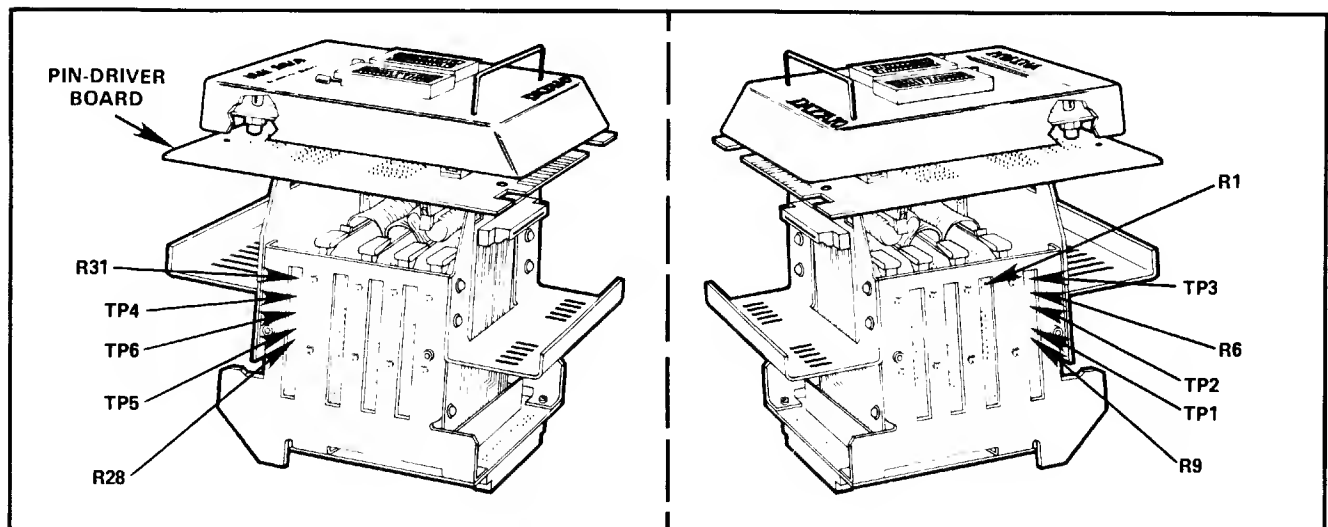

Figure 4-2. Calibration Equipment Setup
5. Plug the adapter into the connector on the pin driver board as shown in figure 4-2.